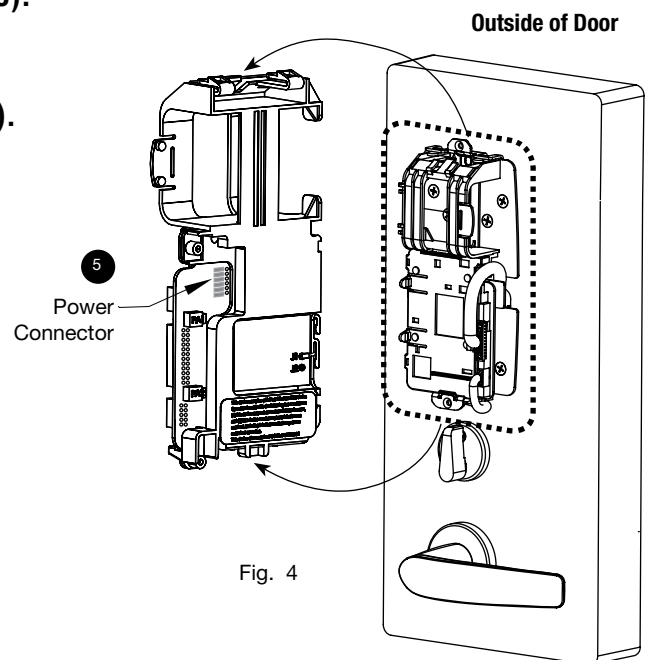

Fig. 4
5. Connect Hirose connector to circuit board (Fig. 4).